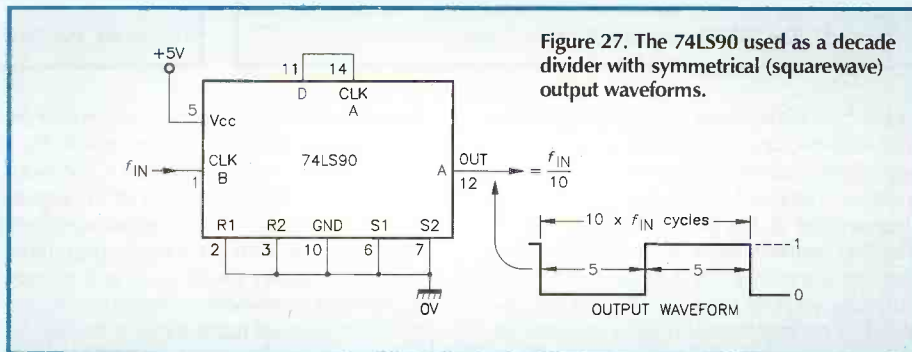

Figure 27. The 74LS90 used as a decade divider with symmetrical (squarewave) output waveforms.
Figure 27 shows the IC used as a decade counter with a symmetrical (squarewave) output. Here, f_{IN} is fed to the input of the divide-by-5 counter, and the output (D) of this drives the input of the divide-by-2 counter, which provides the final output; in this 'bi-quinary' configuration, the IC functions as a divide-by-10 counter with a perfectly symmetrical (1:1 mark-space ratio) output, and the outputs are not BCD coded.